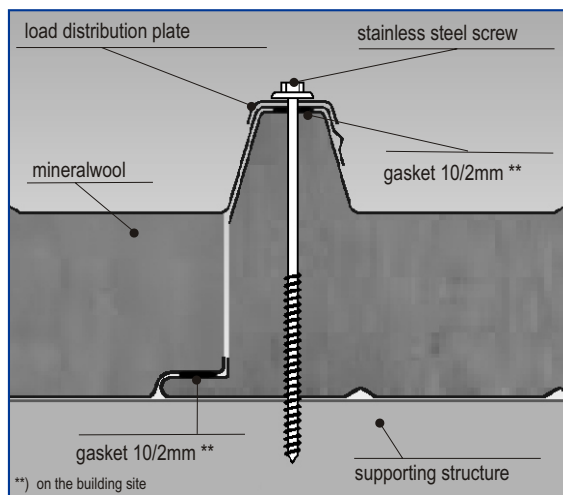

Fig. 2b
For Hipertec-panels (mineralwool) fixing is allowed only in the high corrugation (HS) (Fig.2b).